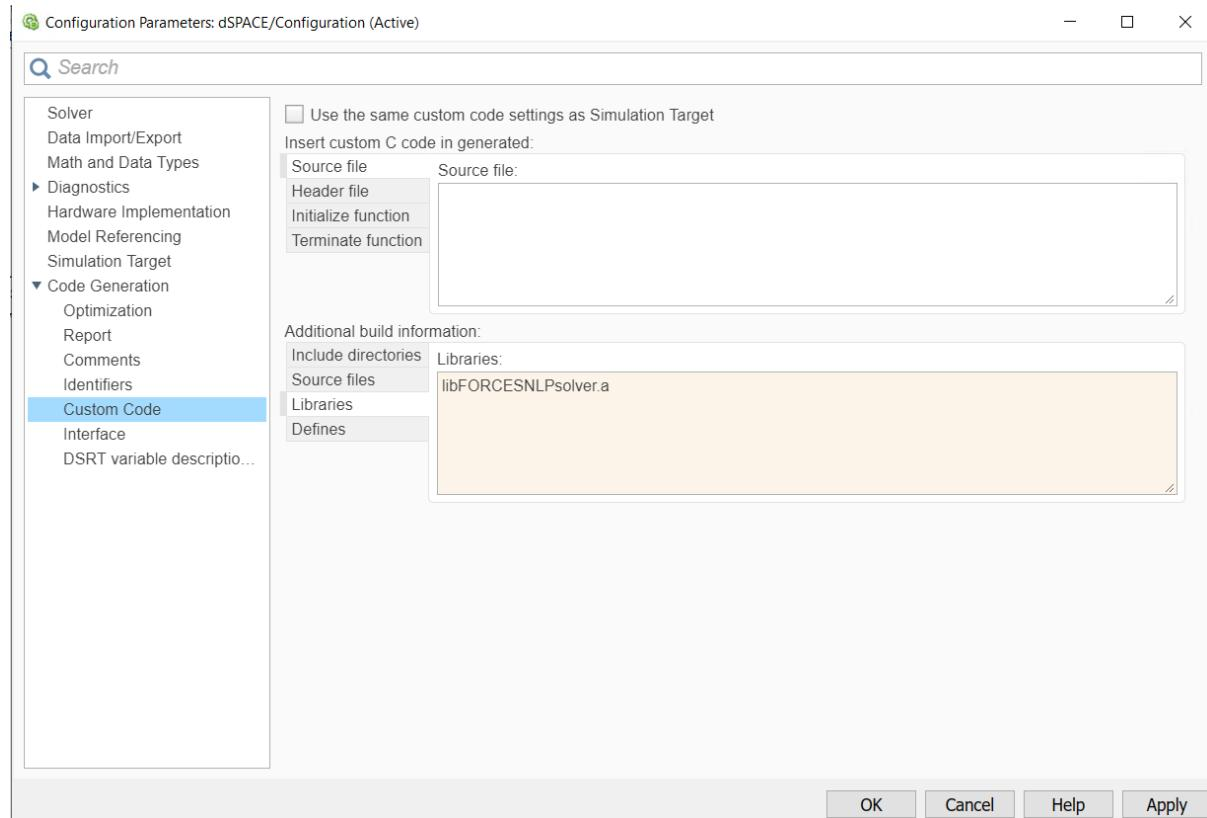

Figure 13.41: Add the libraries used for the code generation.
- 12) In the “Code Generation/Custom Code” tab, add the library file (see Figure 13.41):